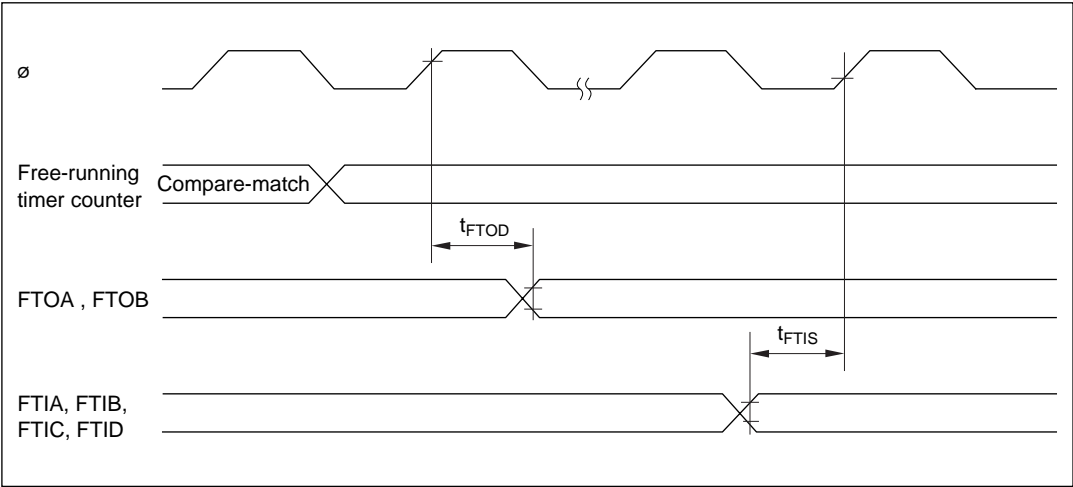

Figure 16-10 Free-Running Timer Input/Output Timing
16.3.3 16-Bit Free-Running Timer Timing	Figures 16-10 to 16-11